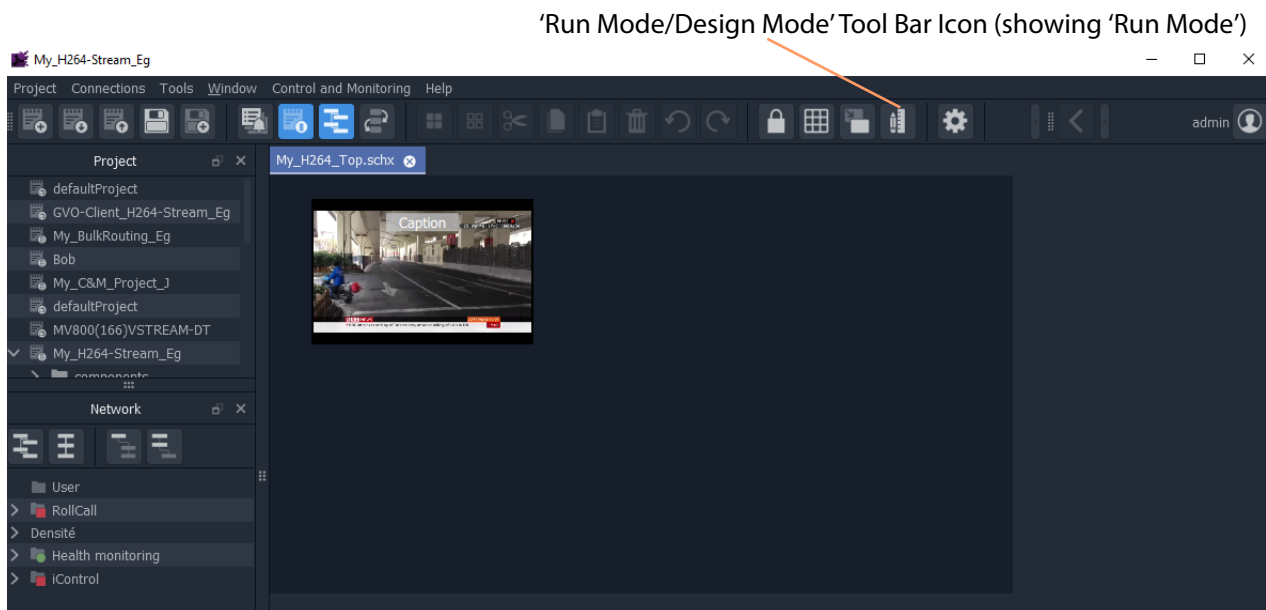

Fig. 4-8: Run Custom User Panel
- Click the 'Run Mode/Design Mode' tool bar icon. See Figure 4-8.
The custom user panel is run and video appears as a live thumbnail image in the widget. See Figure 4-8.